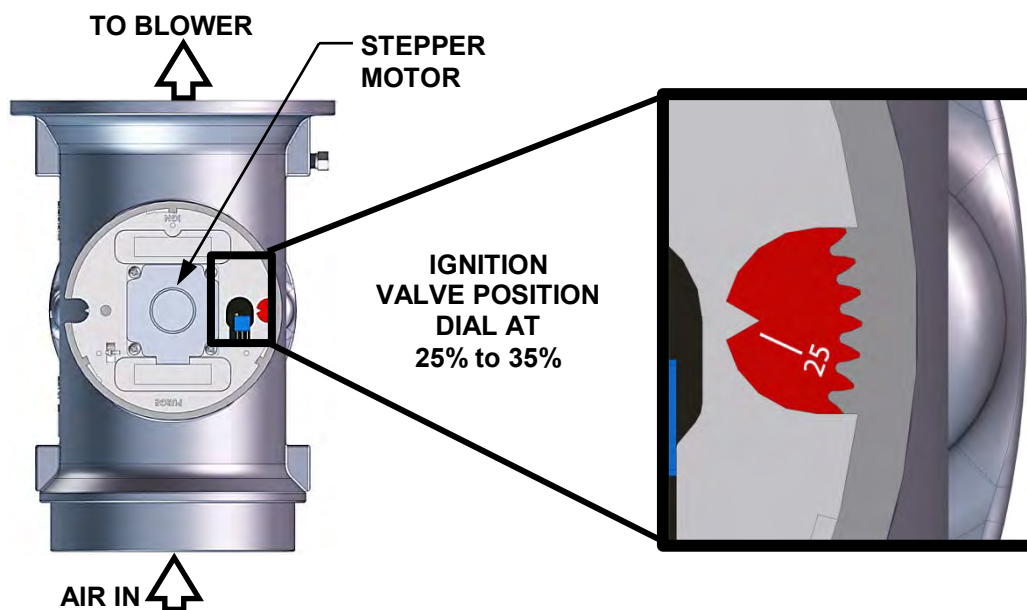

Figure 3-6: Air/Fuel Valve In Ignition Position
- (a) The Air/Fuel Valve rotates to the low-fire (Ignition Position) position and closes the ignition switch. The Dial on the Air/Fuel Valve (Figure 3.6) will read **between 25 and 35** to indicate that the valve is in the low fire position.